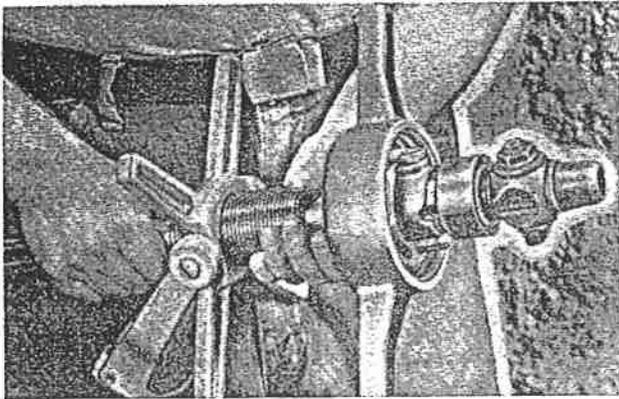

FIGURE 19
6. Coat the inlet threads of the corporation stop or tee with heavy grease or nonhardening pipe "dope" FIGURE 19 and 19A.